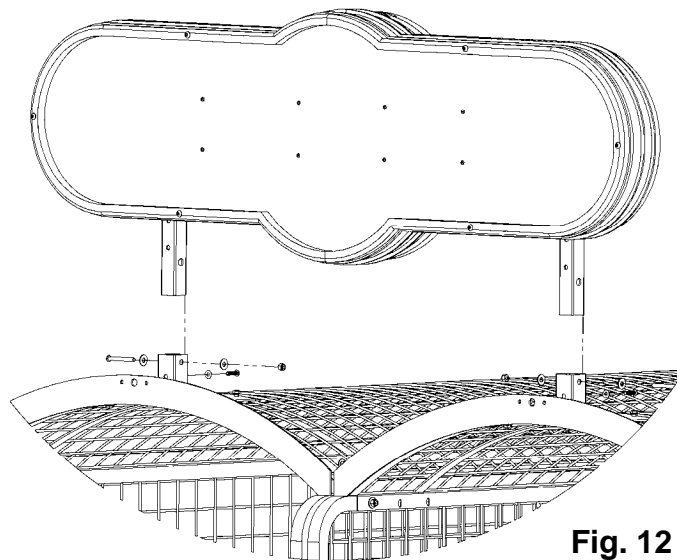

Fig. 12
After one side of the game has been assembled, the other side may be assembled in the same manner. When at least two games have been assembled, the Marquee may now be attached. Slip the Marquee Housing posts into the mounting tubes on the top of the game cages. Align the holes in both mounting tubes and insert (2) 1/4-20 X 1 3/4" Button Head Cap Screws with (2) 1/4 flat black washers. Securely attach with (2) 1/4-20 Nylock Nuts and 1/4 flat black washers. Secure the posts by attaching (2) 1/4-20 X 5/8" Button Head Cap Screws and (2) 1/4 flat black washers. (See Fig. 12)